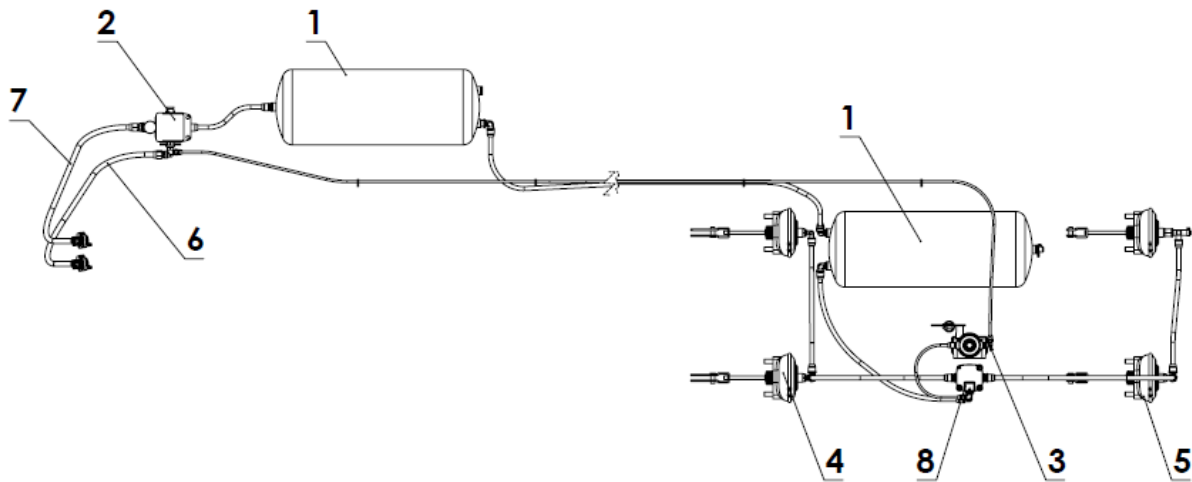

Figure 4.11. A diagram of the pneumatic two-wire braking installation
The brake valve (fig. 4.11, item 2) of the pneumatic installation has a system releasing the brake, which is used in the case when the trailer is disconnected from the tractor.
The braking force regulator in the pneumatic system (fig. 4.11, item 3) is controlled automatically depending on the load of the trailer.